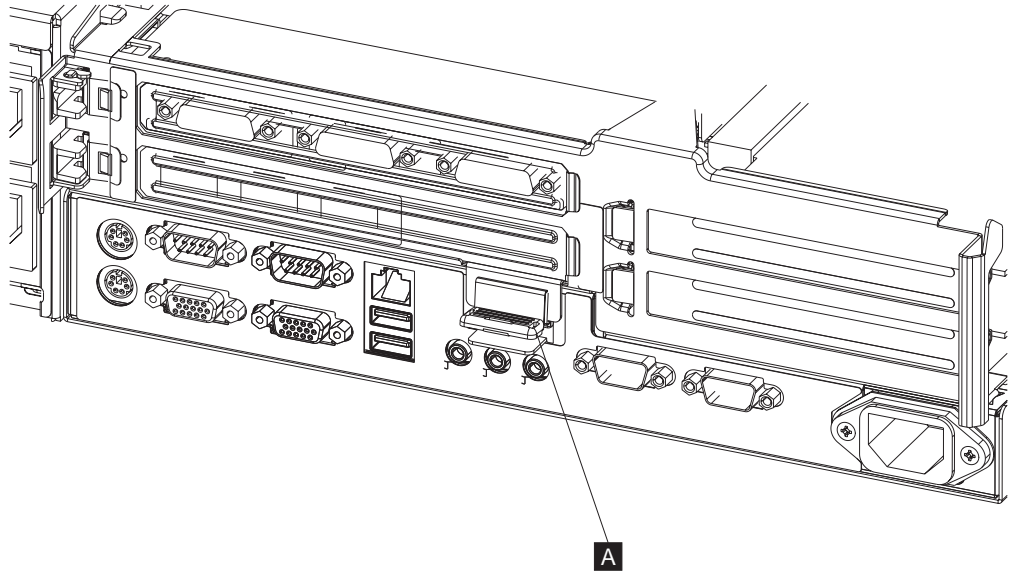

Figure 31. Loosening the spline screw
5. Lift the spline handle, push down on the rear spline latch tab ( **A** in Figure 31), and pull up to remove the spline along with the riser card.